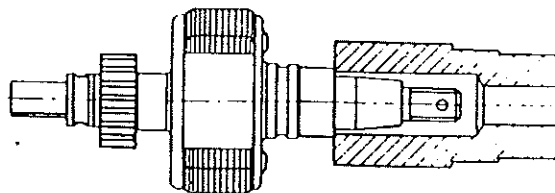

Figure 905. Installing Sleeve Bearing
- I. Position sleeve bearing (69) on drive end of magnet shaft and press into place using the 11-6924-1 Pressing Tool as shown. A small amount of oil on shaft will help prevent damage to sleeve bearing. See Figure 905.